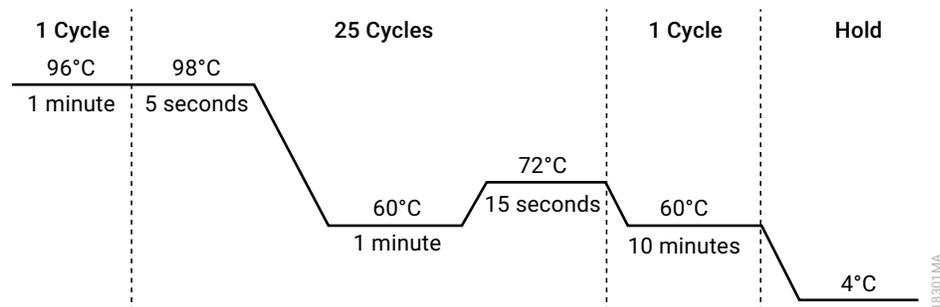

Figure 25. Thermal cycling protocol for ProFlex® PCR System.
2. Select and run the recommended protocol, which is provided below and in Figure 25. The total cycling time is approximately 1 hour.